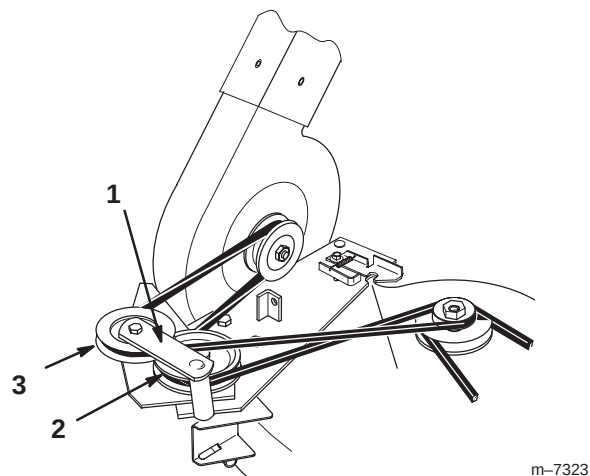

Figure 10
5. Open the latch and swing the blower out, away from the mower. Install the blower belt around the idler and blower pulleys as shown in Figure 10.